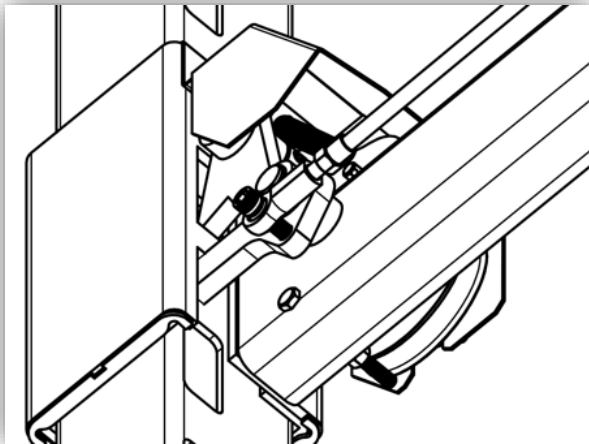
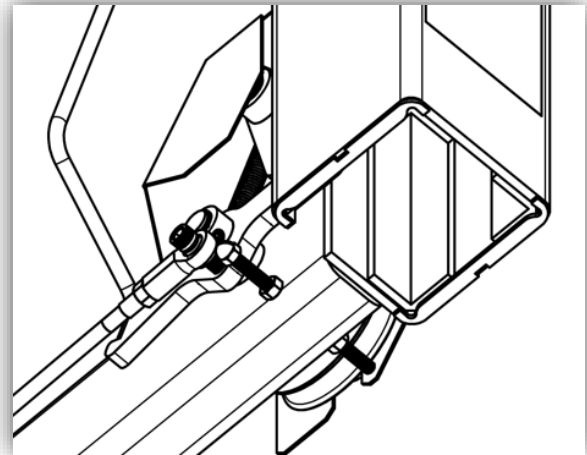

Figure 9.1 Cable Keeper Bolt (x3)
Figure 9.2 Cable Keeper Bolt (Handle Lock)
Locate the (3) 5/16-18 x 4 cable keeper bolts, (5) 5/16 nuts, (1) 5/16-18 all-thread and acorn nut. Install the bolt into the crossmember from the lock side. Install the nut on the pulley side of the crossmember (*figure 9.1*). The 5/16 all-thread will install in the crossmember hole under neath the lock with the handle attached. See *figure 9.2* for orientation.